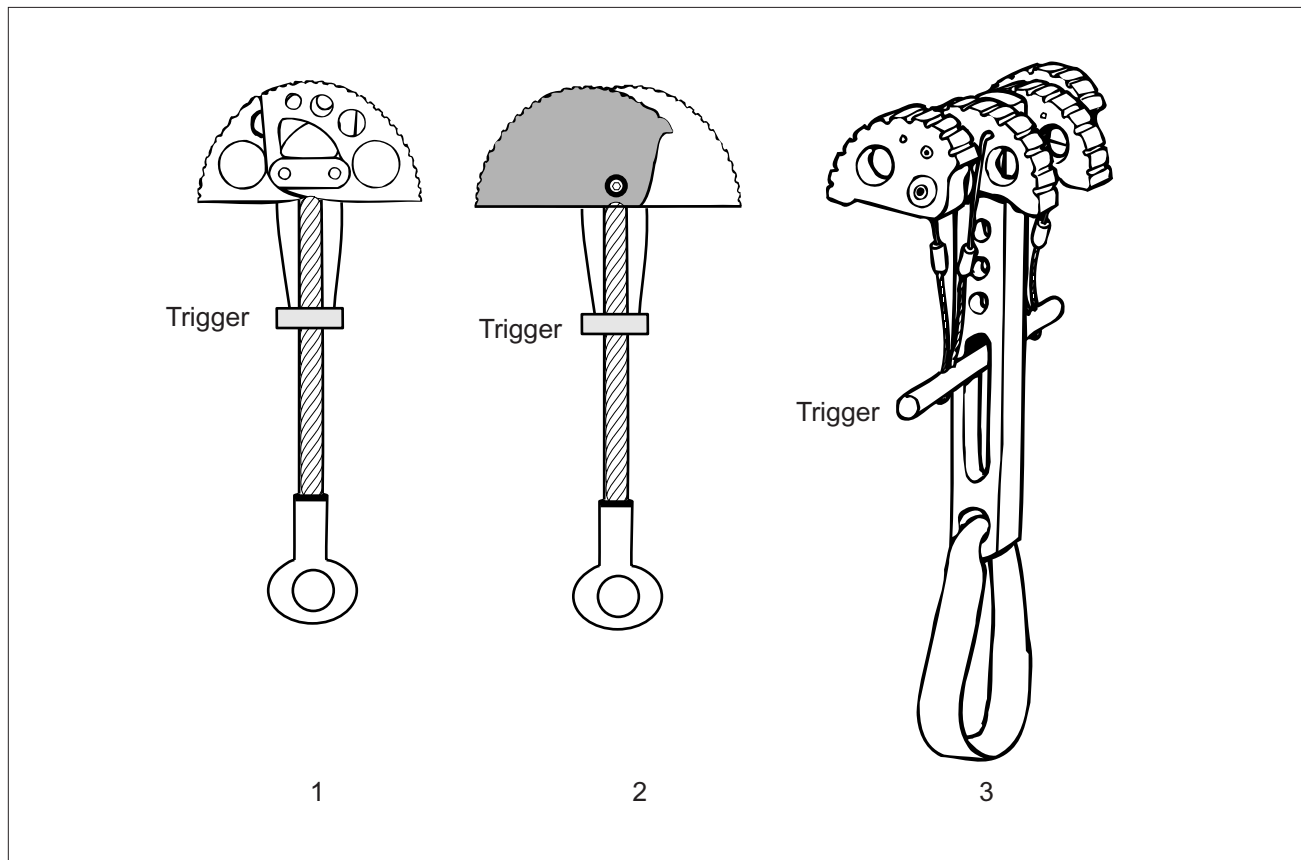

Fig 12-06a—Spring-loaded camming devices (SLCD's), or cams
**Spring-loaded camming devices (SLCD's)** are made of either three or four “cams” with **springs** that are retracted around an **axle** (fig. 12-06a). The springs are strong enough to exert a force that pushes the cams outward. By pulling the “**trigger**” bar that moves parallel to the **stem** to retract the springs, and placing the SLCD into a crack, you set a piece that stays in place on its own, but is easy to remove by again pulling the trigger. In the case of a fall, the force simply pulls harder on the stem and exerts more force in an outward direction, increasing the holding power in proportion to the increased impact force of a fall.